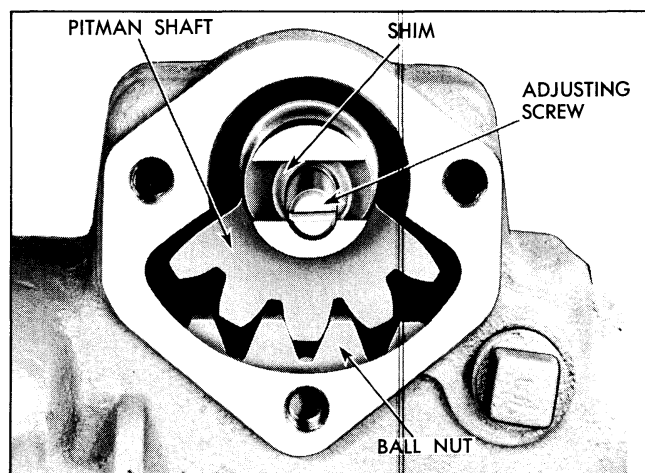

Fig. 9-42 Positioning Pitman Shaft and Ball Nut
8. Install pitman shaft and adjusting screw with sector and ball nut teeth positioned as shown in Fig. 9-42.